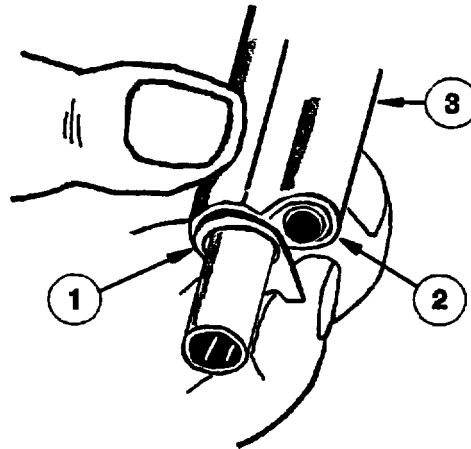

Figure 3-8. Removing The Recoil Spring Plug
h. Rotate the barrel bushing (1), Figure 3-8, clockwise and remove the recoil spring plug (2) by inverting the slide assembly (3).
(4) Rotate barrel bushing (1), Figure 3-8, counter-clockwise over recoil spring plug (2) .